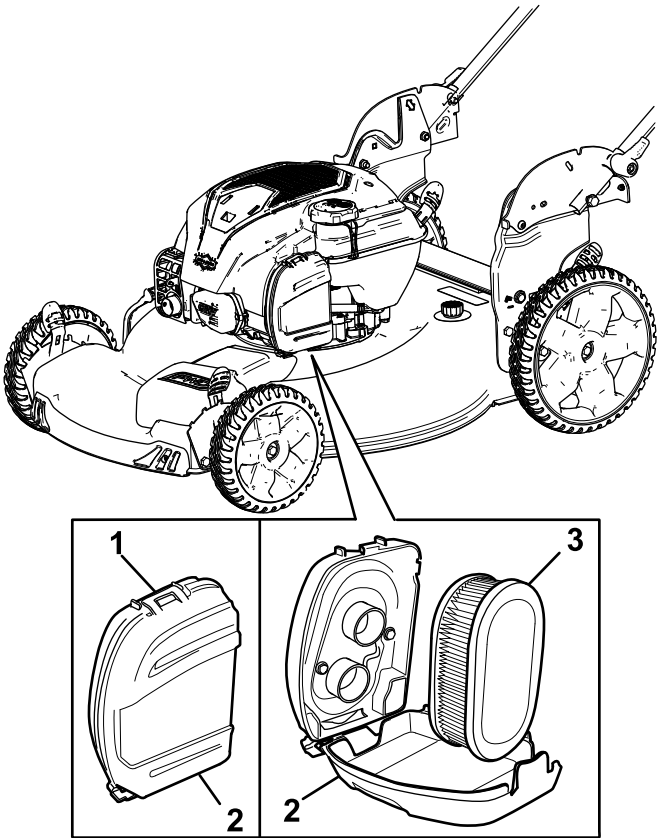

Figure 22
1. Unclip the top of the air-filter cover (Figure 22).
2. Remove the air filter (Figure 22).